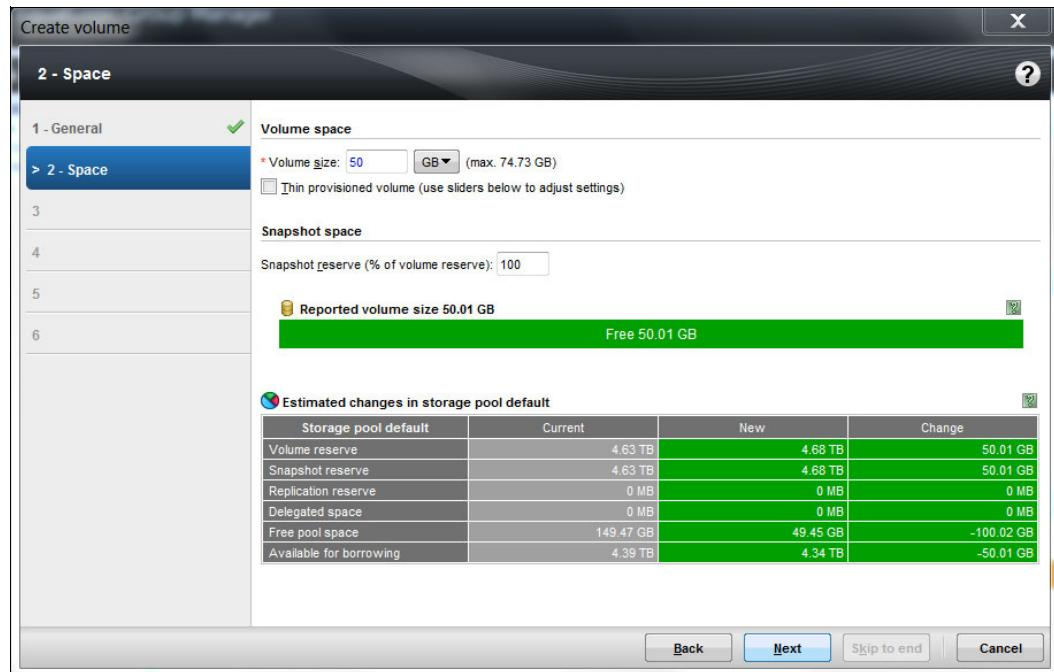

Figure 14-15 Window to provide volume size and capacity saving details
4. Specify the volume size. Select the check box if you want to create a thin-provisioned volume. Select a suitable snapshot reserve that is based on the requirement and Dell configuration guidelines, and click **Next**. Figure 14-15 shows a sample volume creation with the default pool and no thin provisioning.